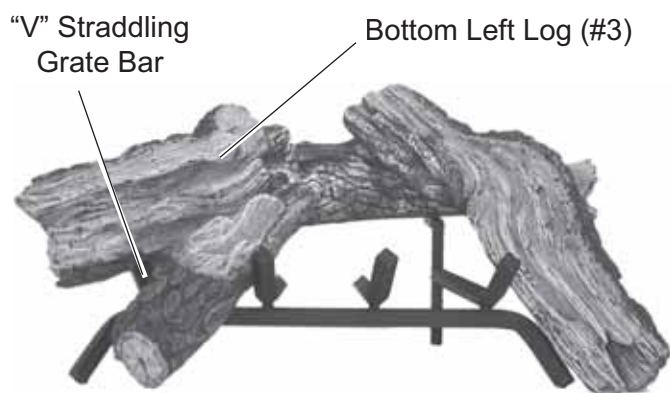

Figure 126 - Straddling “V” of Bottom Left Log (#3) on Grate Bar
4. Place Bottom Left Log #3 on grate. The “V” of the log should straddle the end grate bar. *See Figure 126.*